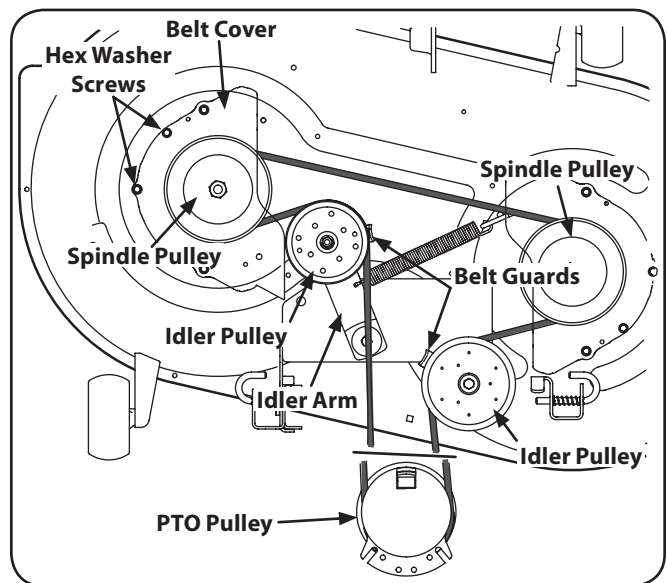

Figure 7-7
- Remove the hex washer screws securing the belt covers to the deck. See Figure 7-7.
- Install the new belt around the spindle pulleys as shown and reinstall the belt covers. See Figure 7-7.
- Route the belt as shown in Figure 7-7 and then reinstall the deck.